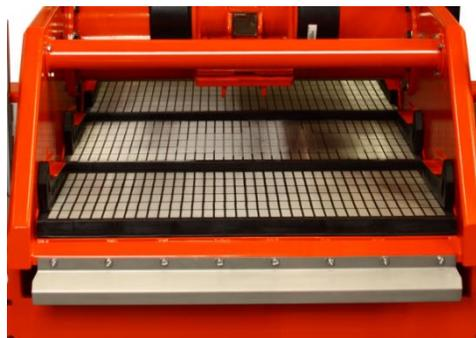

Figure 24. Screens & Wedges Firmly Engaged
- Make sure the shaker decks have screens loaded and secured to the basket (Refer to Figure 24). Consult paragraph 15.3.2 for screen installation steps.